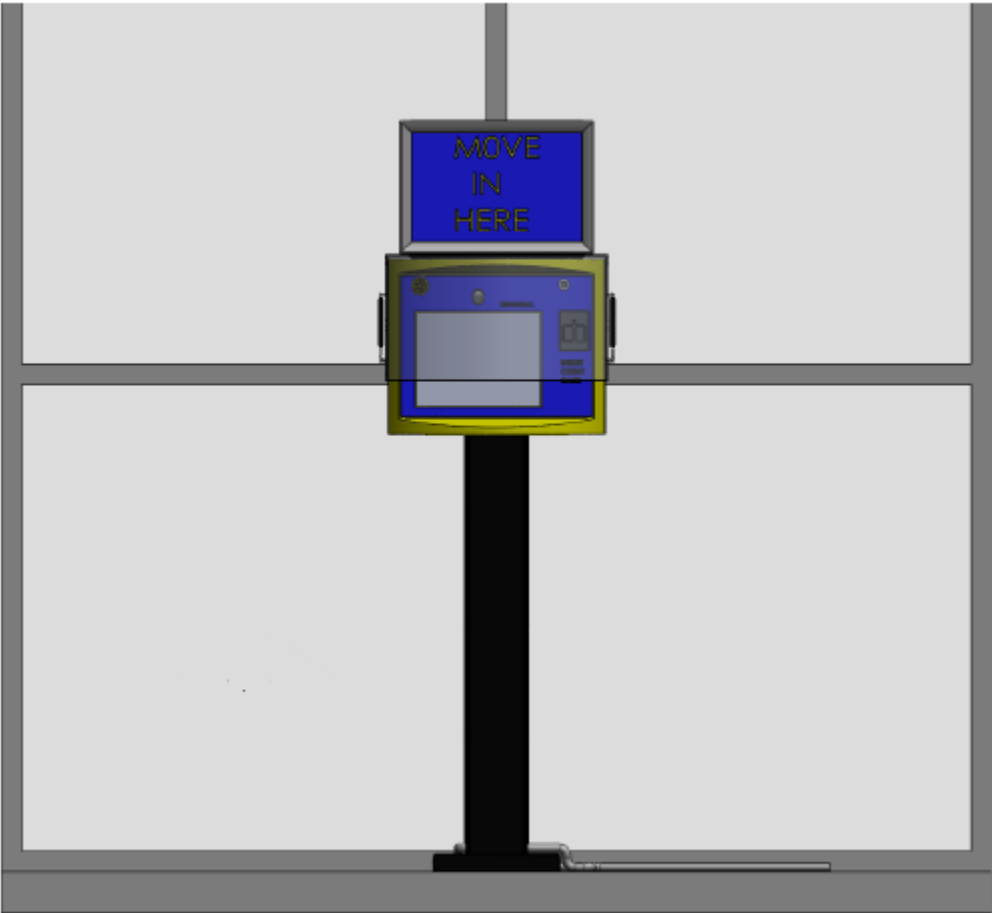

Figure 6: Pedestal Mount (Front View)
- Figure 6: Pedestal Mount (Front View)15